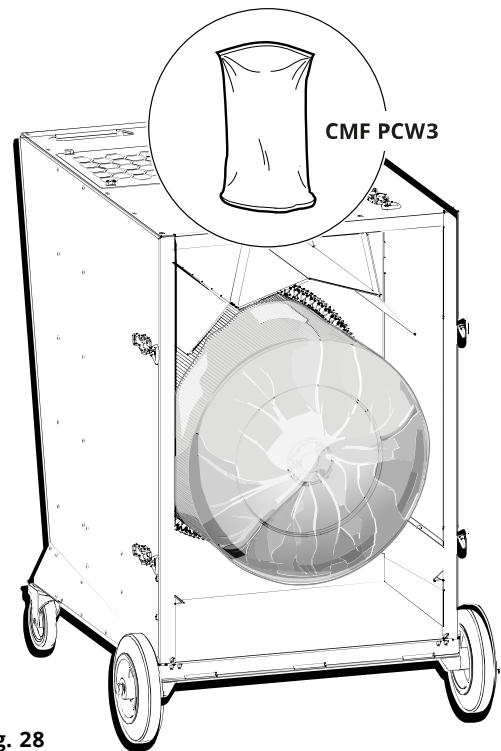

Fig. 28
6. Pull the filter bag CMF PCW3 over the filter cartridge (**Fig. 28**).